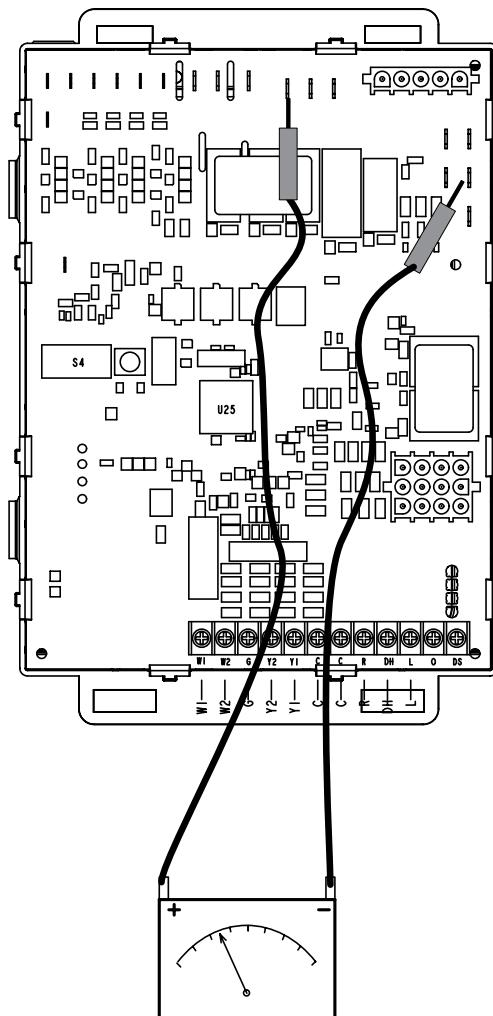

Figure 47.
1. Measure the AC voltage between Line Neutral (spade terminals) and "C" terminal (low voltage terminal block) on the integrated control. See Figure 47. A wide variation in the voltage between Line Neutral and "C" as a function of load indicates a poor or partial ground. Compare the readings to Table 20. If the readings exceed the maximum shown in Table 20, make repairs before operating the furnace.
2. In addition, measure the AC voltage from Line Hot to Line Neutral (spade terminals) on the integrated control. See Figure 47. This voltage should be in the range of 97 to 132 VAC